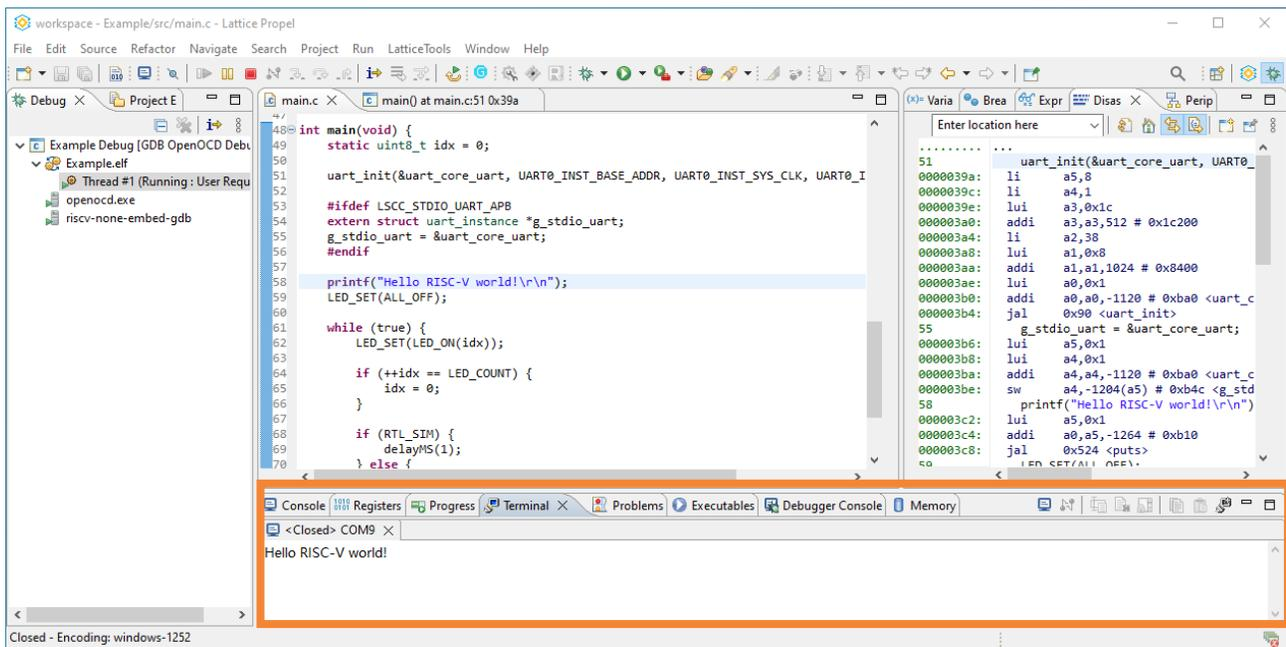

Figure 4.13. Run Result of Hello World Project
9. Click the **Resume** icon  on the toolbar. The serial terminal outputs *Hello RISC-V world!* (Figure 4.13).